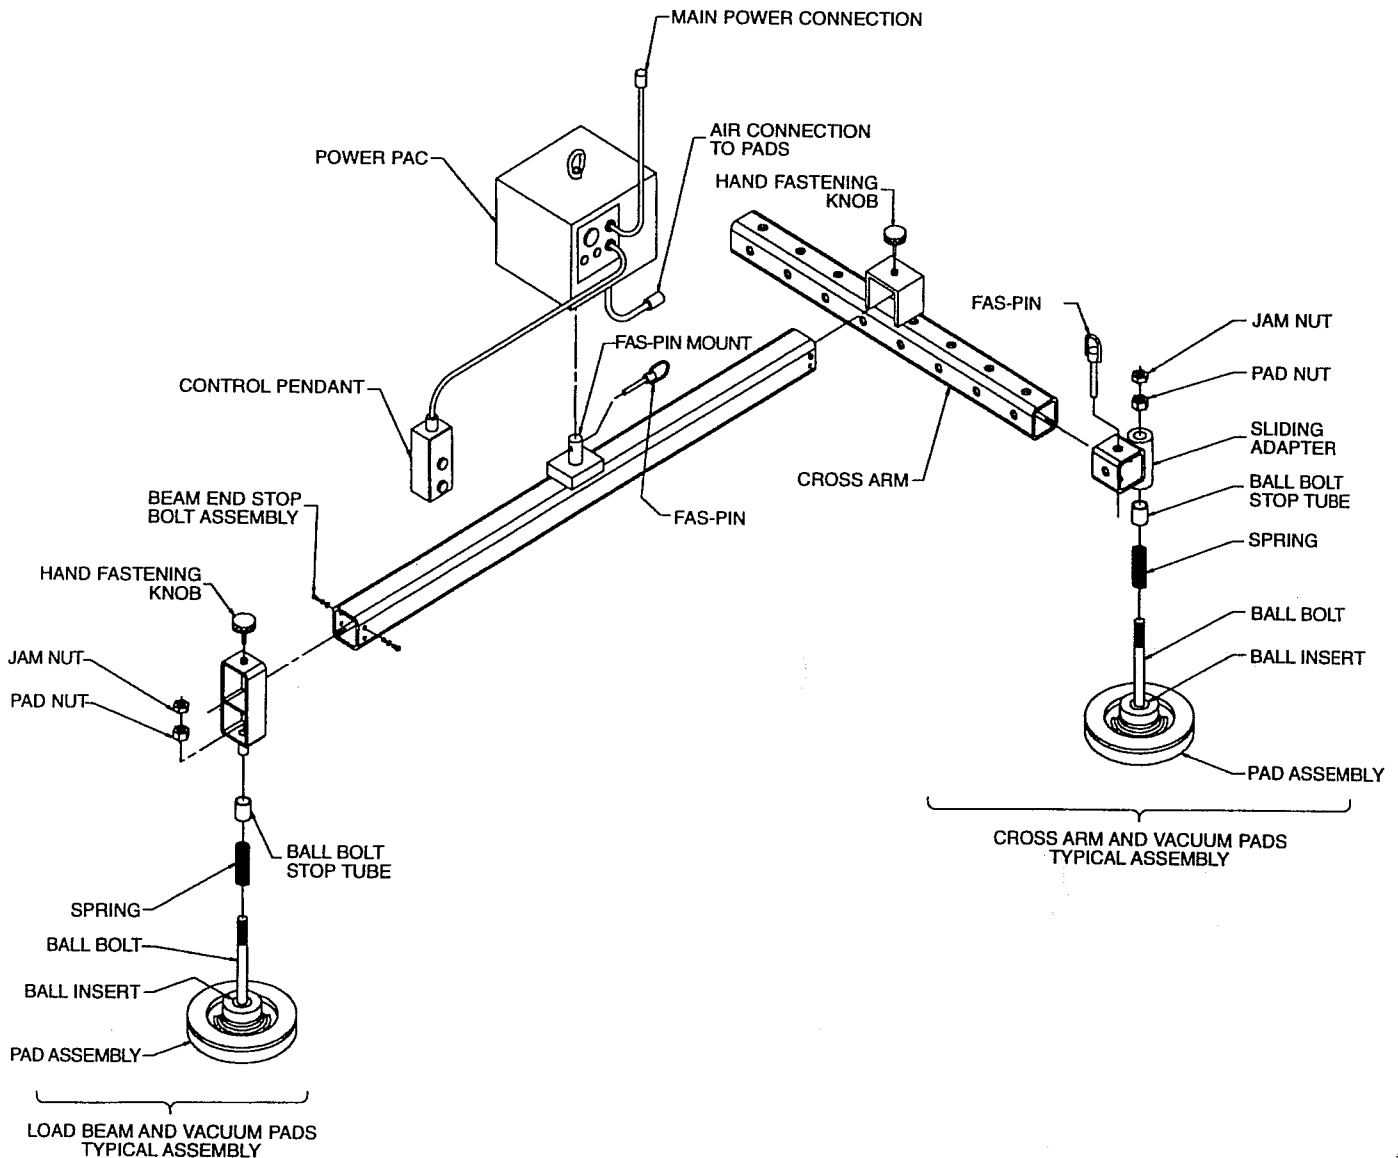

FIGURE 7
1. Every VAC-U-LIFT® vacuum lifter is fully assembled at the factory prior to shipment. Some lifters are disassembled to facilitate shipment, but the original assembly assures that all parts fit and that the lifter is complete. If assembly is required, refer to Figure 7 and assemble the lifter as follows: